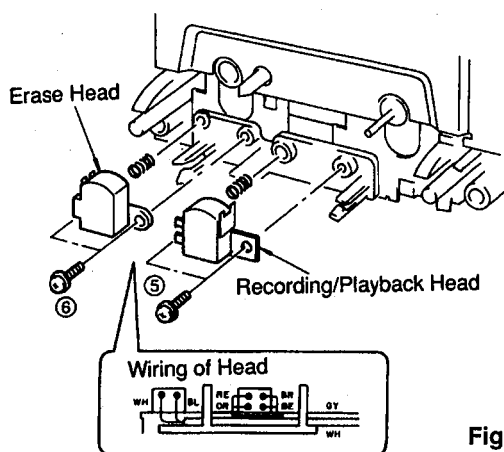

Fig. 6
- a. Remove 2 screws (⑤) in Fig.6 and then remove the Recording/Playback Head.
- b. Remove 2 screws (⑥) in Fig. 6 and then remove the Erase Head.